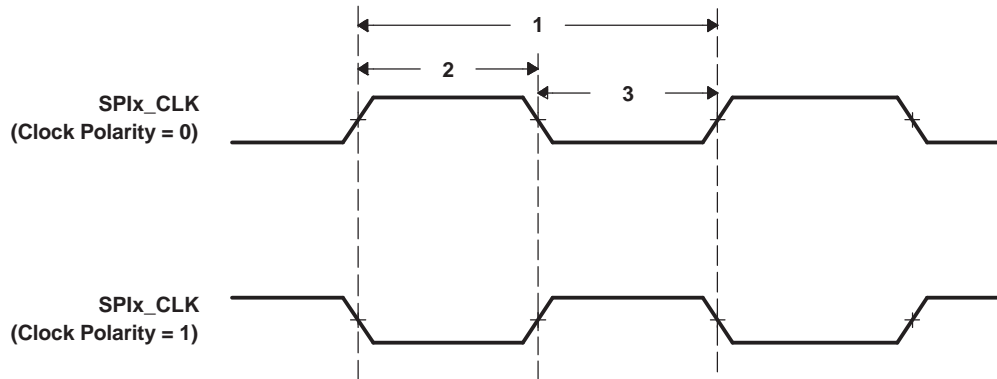

Figure 6-44. SPI\_CLK Timing
**Table 6-70. Timing Requirements for SPI (All Modes)(1) (see Figure 6-44)**